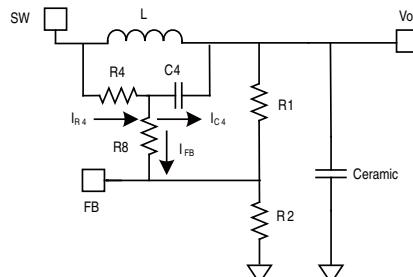

Figure 7: Simplified Circuit in PWM Mode with External Ramp Compensation
Figure 7 shows a simplified external ramp compensation (R_4 and C_4) for PWM mode. Choose R_1 , R_2 , R_8 , and C_4 of the external ramp to meet the condition shown in Equation (3) and Equation (4):